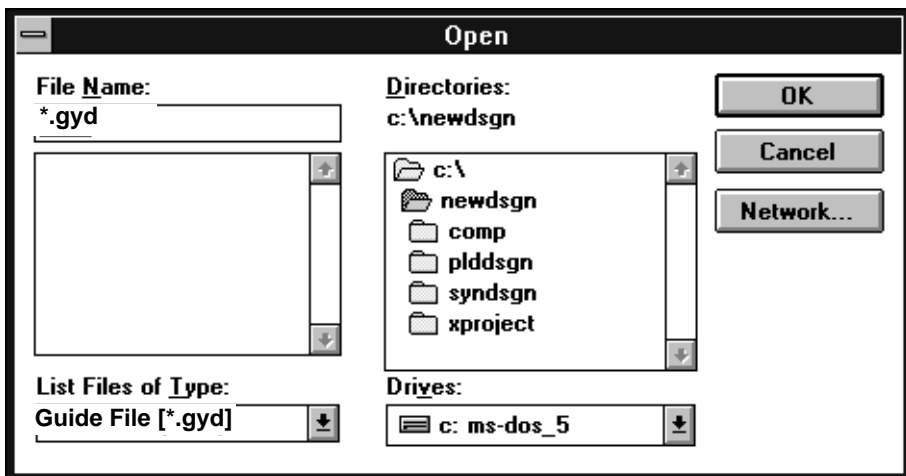

Figure 2-48 The Open Dialog Window
- **Guide File:** If you want to use the pinouts from a previous run of your design, specify that guide file here. Click Browse and you see the Open dialog window as shown in Figure 2-48.